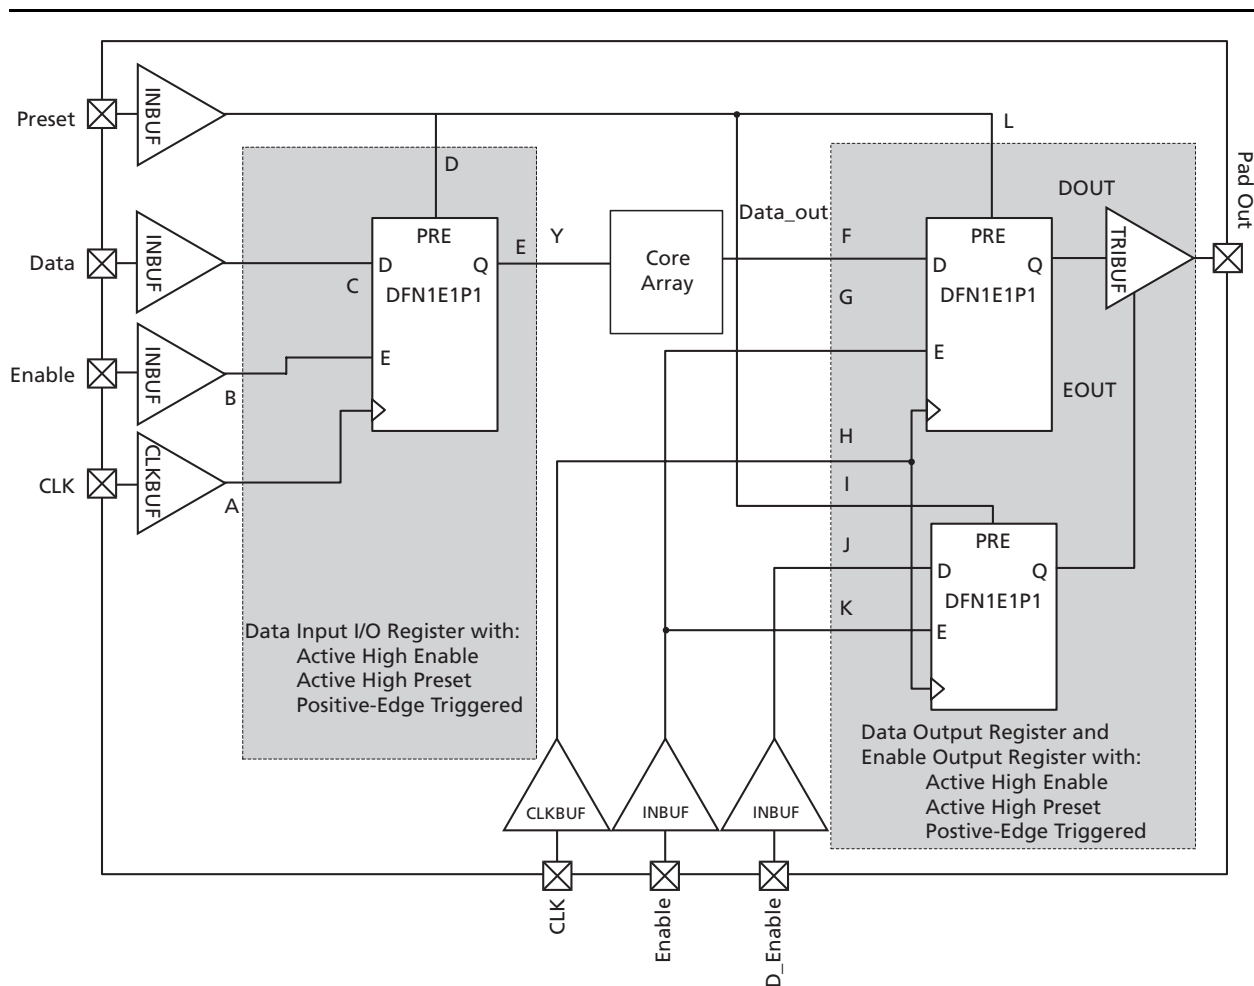

Figure 2-27 • Timing Model of Registered I/O Buffers with Synchronous Enable and Asynchronous Preset
* See Figure 2-27 on page 2-83 for more information.